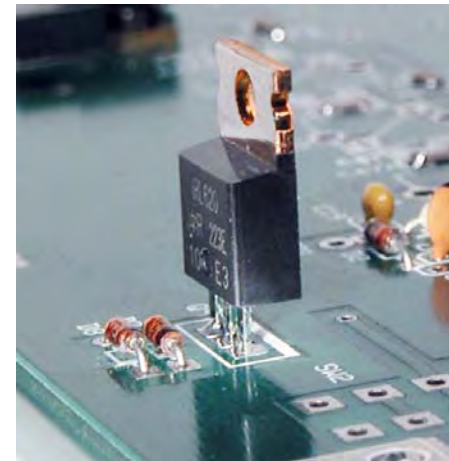

Figure 24. Installing Transistor Q4.
Install transistor Q4 (620) in the space provided near diodes D7 and D8 as shown in Figure 24. **Be sure the leads are inserted until their shoulders are against the top of the PCB. If the leads are not inserted far enough, the tab on the top of the transistor may short against the top cover when the cabinet is assembled.** Trim the leads as short as possible on the bottom of the PCB.